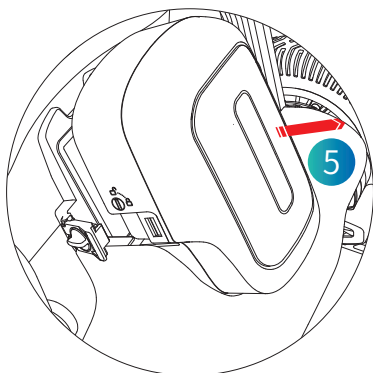

Figure 4.6.1.3
(3)In Step 3, remove the battery in the direction shown in the figure. (As shown on Figure 4.6.1.3)